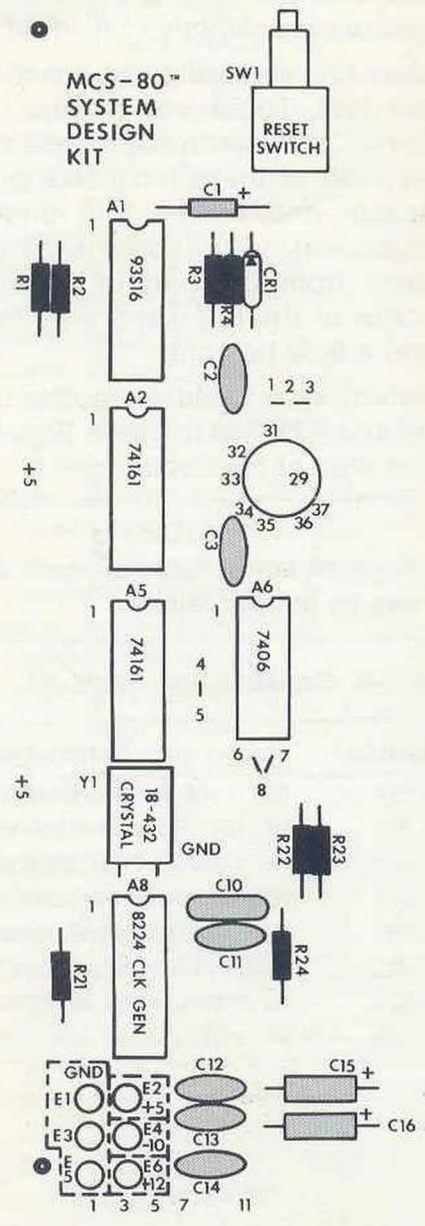

Figure 2-4. Construction Figure #2.
- Solder capacitors C1-C3 and C10-C16 in place (Figure 2-4). C1 is a 1 uf, 50V tant. C2, C3, and C11-C14 0.01 uf ceramic. C10 is a 10 pF mica. C15 and C16 are 22 uf, 15V tant.